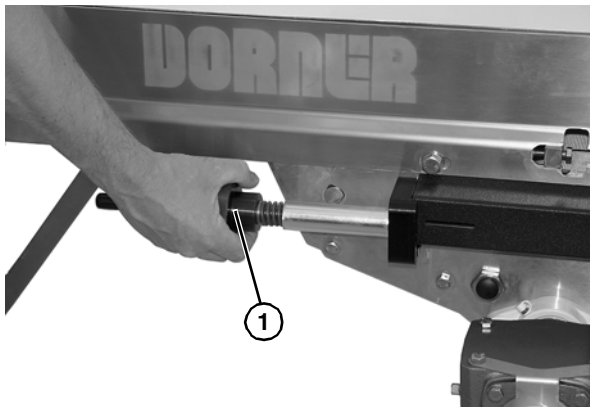

Figure 87
2. Rotate tensioning nut (**Figure 87, item 1**) on each side of center drive unit counterclockwise to remove all tension on belt.